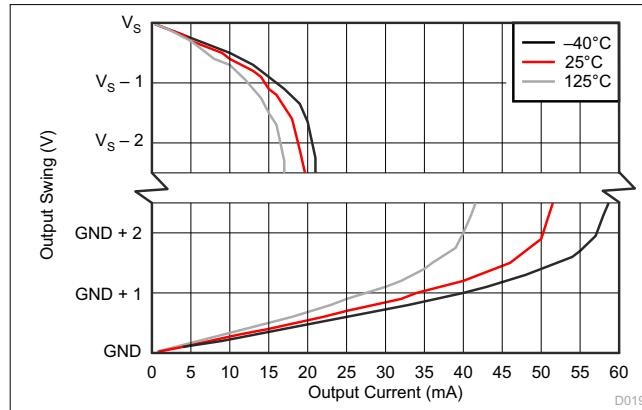

Figure 7-19. Output Voltage Swing vs. Output Current
(1) RTI = referred-to-input.
(2) Offset voltage is obtained by linear extrapolation to $V_{SENSE} = 0 \text{ V}$ with $V_{SENSE} = 10\%$ to 90% of full-scale-range.
(3) See Figure 7-19.
(4) Swing specifications are tested with an overdriven input condition.